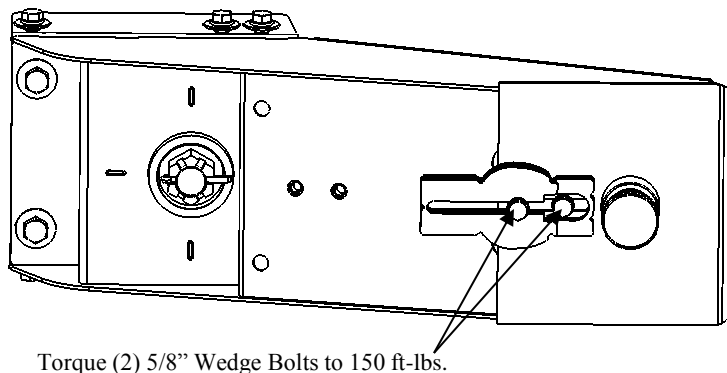

Figure 8
9. Torque (2) 5/8" Wedge Bolts to 150 ft-lbs (figure 8). A thin walled socket may be necessary.